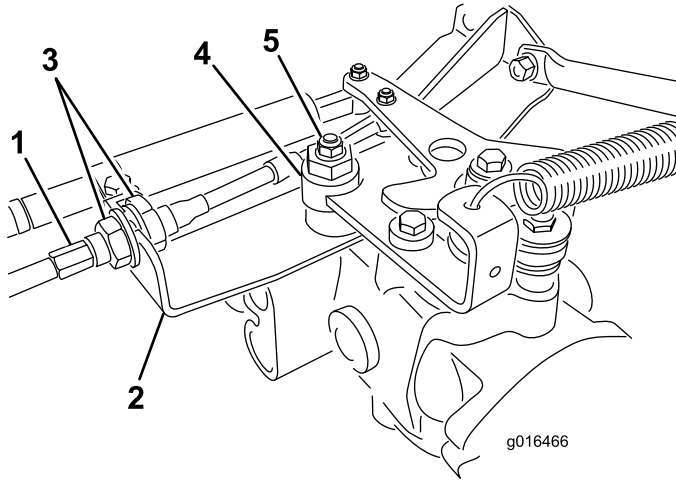

Figure 47
- A. Loosen both jam nuts securing the traction-control cable to the bulkhead on the hydrostat (Figure 47). Ensure that the jam
Note: Loosen the nut securing the eccentric to the top of the hydrostat (Figure 47).
- E. When the wheel stops rotating, tighten the nut locking the eccentric and the adjustment (Figure 47).
- G. From each side of the bulkhead, tighten the locknuts evenly, securing the traction cable to the bulkhead (Figure 47). Do not twist the cable.